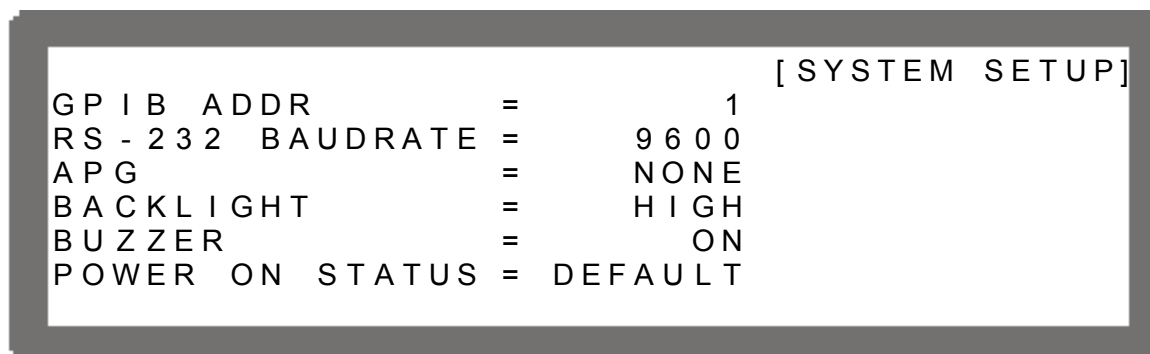

Figure 3-5
1. In Config setup page, press "1" will display the screen of Figure 3-5.